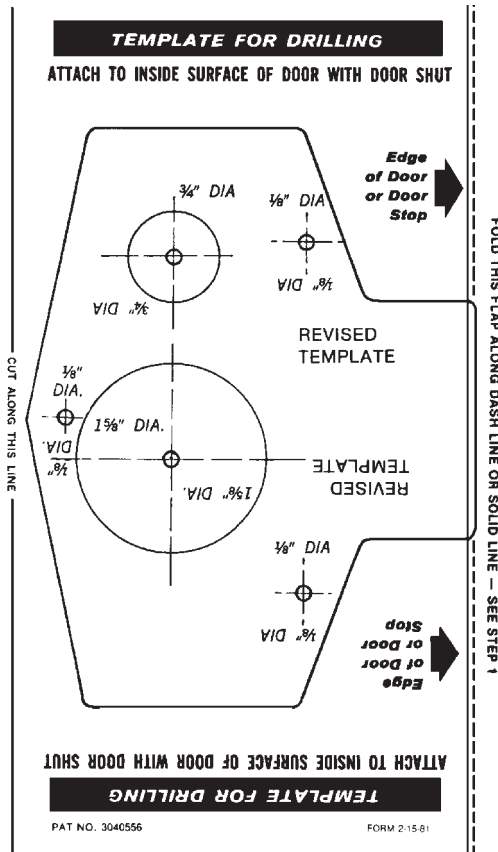

Figure 18.16 Drilling template for the 100 and 200 series DL/NL model locks. (*Simplex Access Controls Corp.*)
1. Using the template provided with the lock (Fig. 18.16), cut the template from the sheet and fold on the printed line as shown by the arrow. With the door closed, tape the template to the inside of the door with the fold line aligned with the edge of the door (or door stop if one is present). The same template applies to both inswing and outswing doors (Fig. 18.17). Using a center punch, mark the centers of the two large and three small holes.